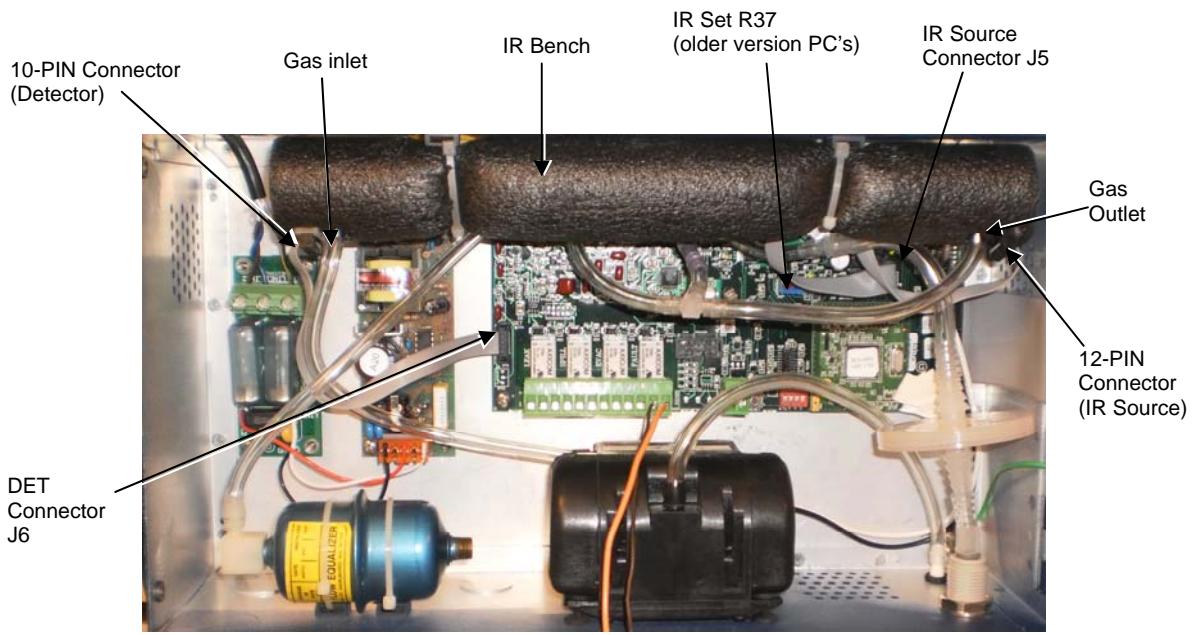

Figure 1: Single Zone Components
3. Take time to familiarize yourself with the internal components displayed on the following page. Figure 1 is a diagram of the Single Zone monitors while Figure 2 is a diagram of the Multi-Zone monitors. Figure 3 shows the R37 component used to adjust the IR emitter drive level. This is only present on older models.